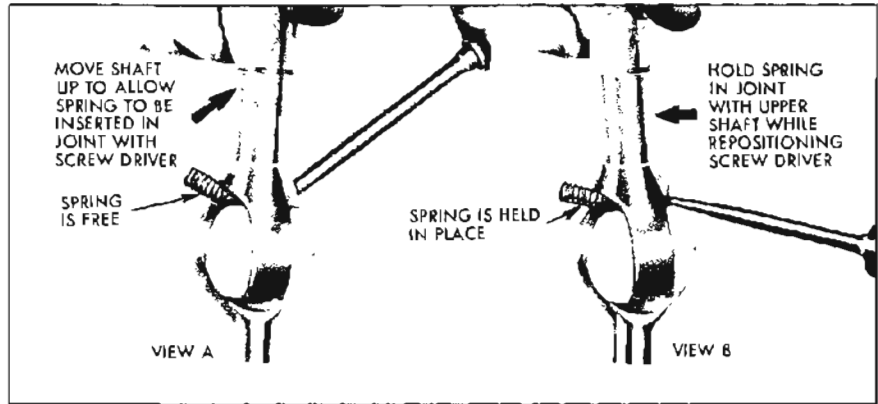

Figure 8-91—Installing Preload Spring
8. Insert the joint preload spring through centering spheres into lower shaft. Using the upper shaft to hold the spring in place and a screwdriver in the other hand, carefully feed spring into shaft joint. See Figure 8-91.